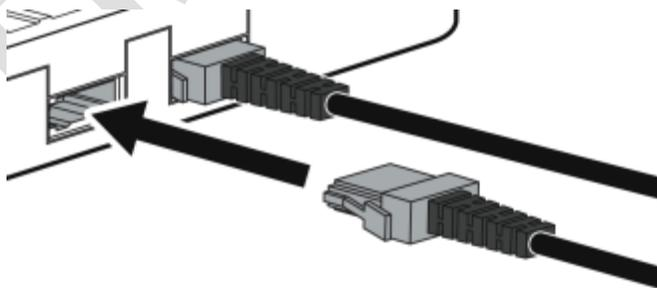

Figure 2
2. Connect the Vernier Energy Sensor Current and Voltage connectors to LabQuest (see Figure 2). Choose New from the File menu.